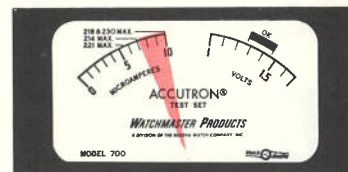

Fig. 20
3. For correct reading, meter pointer should *not* be above 10 microamperes with the fingers engaged (fig. 20).